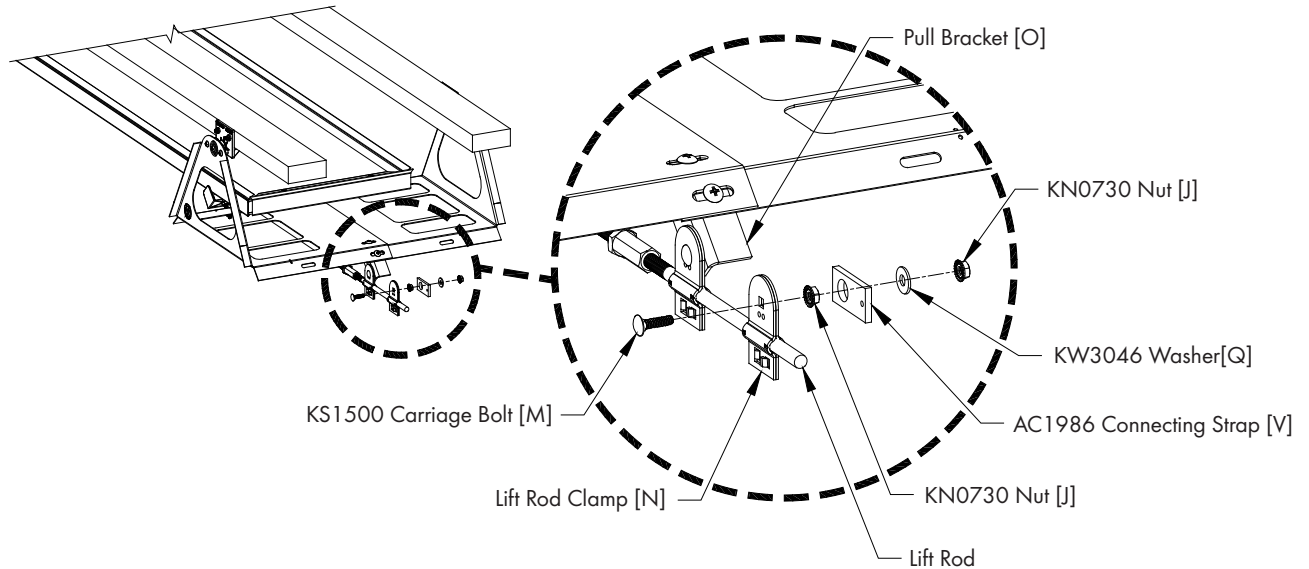

Figure 15
On the far end of the system if Lift Rod extends past the last Pull Bracket 5" - 7", install (2) Lift Rod Clamps [N] using (1) KS1500 Carriage Bolt [M] and KN0730 Nut [J]. Then attach Connecting Strap [V] to Lift Rod Clamps using (1) KW3046 Washer [Q] and KN0730 Nut [J]. See Figure 15. If the Lift Rod extends past the Pull Bracket by more than 7", cut off the Lift Rod at 6" past the Pull Bracket and install (2) Lift Rod Clamps [N] using (1) KS1500 Carriage Bolt [M] and KN0730 Nut [J]. Then attach Connecting Strap [V] to Lift Rod Clamps using (1) KW3046 Washer [Q] and KN0730 Nut [J]. See Figure 15.